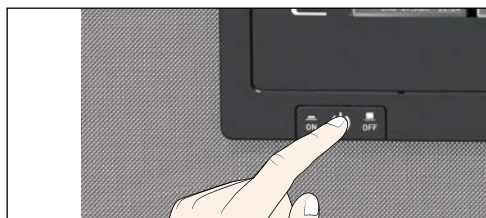

Fig. 23 Switching off the appliance.
5. Switch off appliance (Fig. 23).